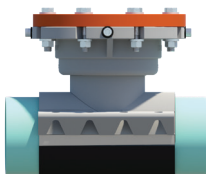

Figure 2
**6)** Mount the top half of the line stop fitting on the pipe in the position required for permanent installation (see Figure 2). Use a level to ensure the flange is level. Do not rotate the top half of the line stop fitting after it is positioned on the pipe.